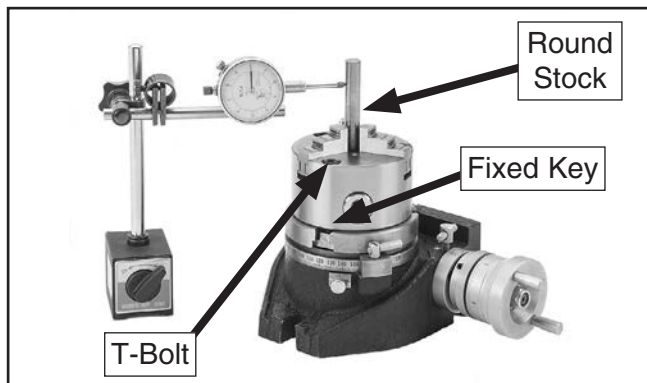

Figure 16. Magnetic base dial indicator placed next to rotary table.
2. Insert piece of straight round stock into chuck jaws to act as indexing point (see **Figure 16**).
Note: Indicator needle should be perpendicular to rotary table and touching outside edge of round stock in chuck jaws (see **Figure 16**).